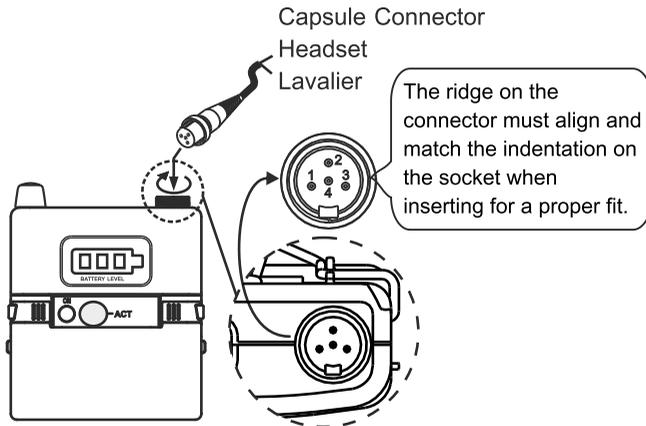

Fig. 29
- (A) Before turning on the power, connect the input signal source to the microphone input jacket **14** first to avoid open-circuit induced noise, Fig. 29.
- (B) Align and fasten the connector clockwise for a secured fit.